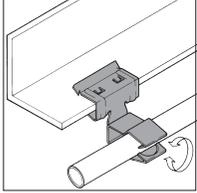

Fig. 2
- Fig. 2 supports 15 lb static load limit